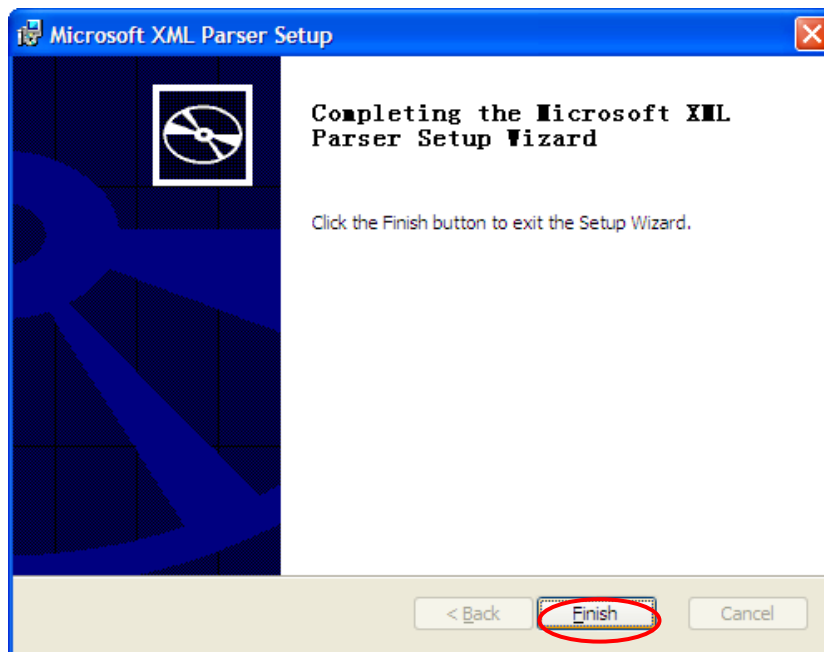

Figure 1-1-9 Installation Steps (9)
- After installation, click “Finish” button to exit the setup wizard MSXML 3.0, as shown in figure 1-1-9.